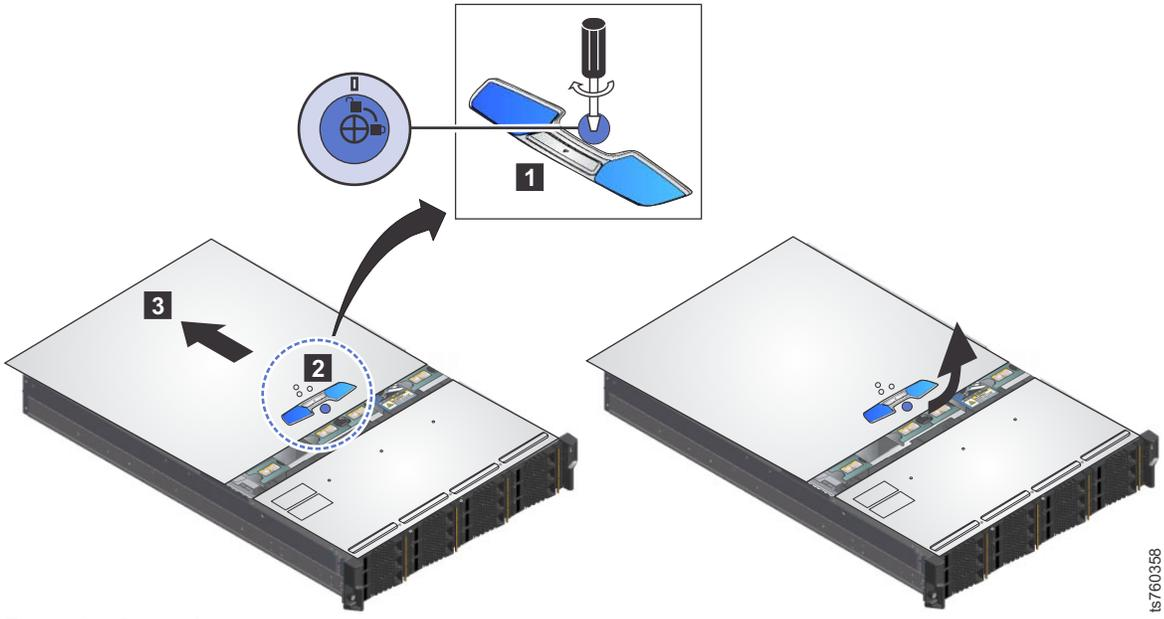

Figure 28. Removing server cover
9. Remove the covers from both the defective chassis and the replacement chassis. Refer to Figure 28 on page 52. **1** Loosen the cover's holding screw 1/4 turn clockwise. **2** Press the silver button and **3** slide the cover back and up to remove it.